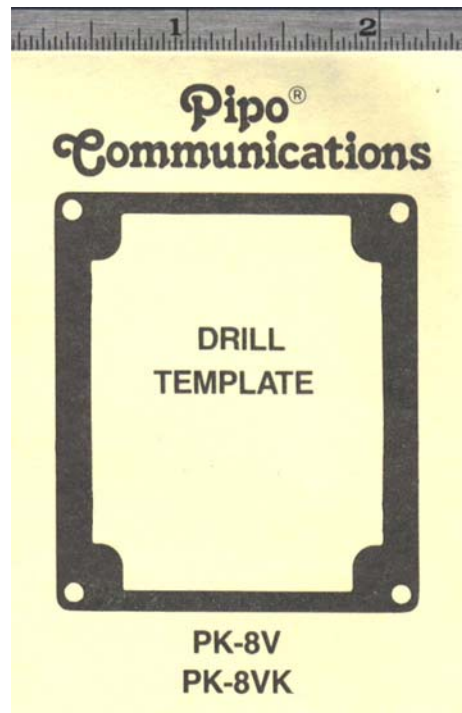

Figure 1. Drilling template.
- C. Using the template in Figure 1 and a center punch, accurately lay out the mounting holes and cable slot on the top of the microphone base. (Use the ruler above the template to verify that the dimensions of the template haven't changed from subsequent distribution of this SIL. If the keypad was received with a mounting frame, the frame can be used as a drilling template).